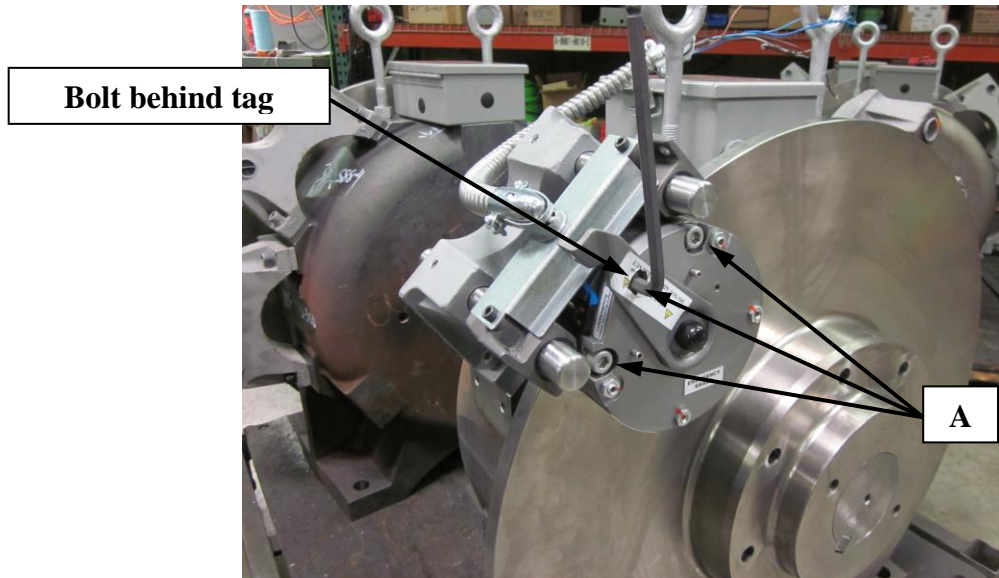

Figure 8
- Once the wires have been removed from the electrical enclosure, Loosen, do not remove the 3 brake retaining bolts “A” on the front of the brake itself. 1 bolt may be behind tag as shown in Figure 8. This will allow for removal of brake without having to energize the brake.